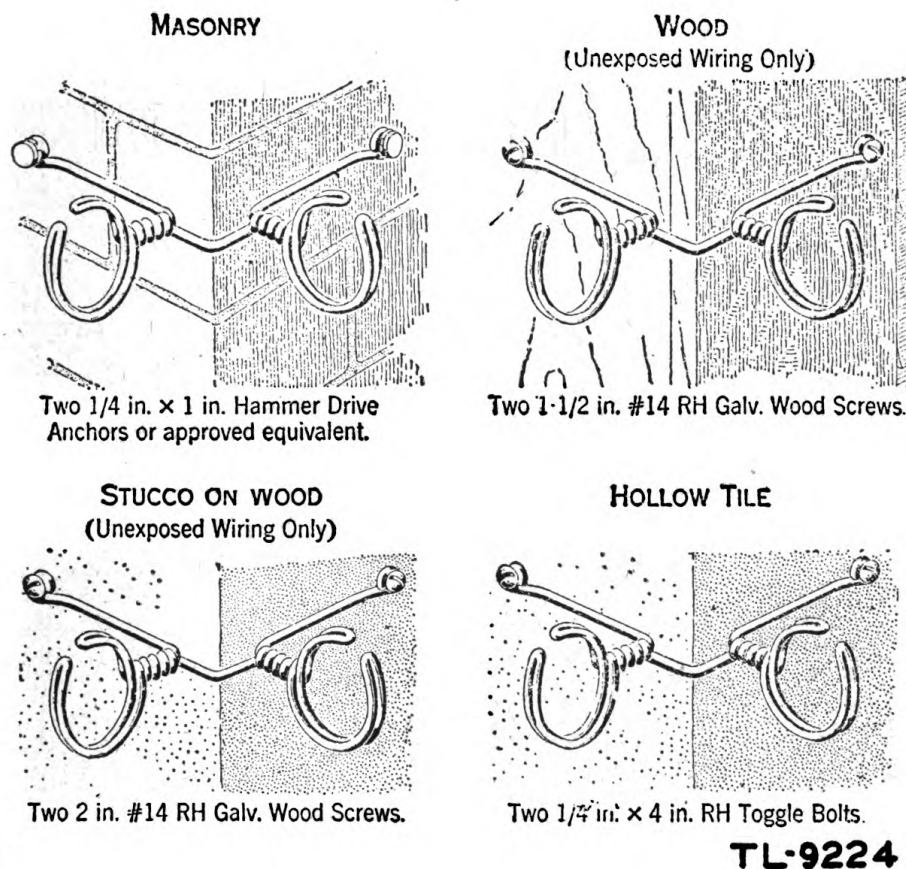

Figure 29. Corner bridle rings installed on various surfaces.
o. INSTALLING CORNER BRIDLE RINGS. (1) Attach corner bridle rings on brick veneer, using same procedure as for masonry, provided that holes can be drilled without loosening or cracking the bricks.
(2) On stucco-finished walls, drill stucco with 1/4-inch, short masonry drill to obtain holes to accommodate wood screws.
(3) Figure 29 shows various installations of corner bridle rings.